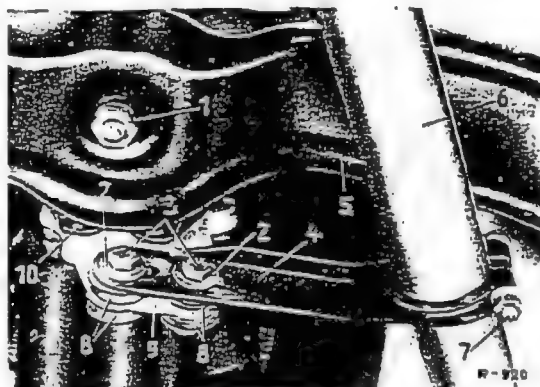

Fig. 49-1/1
7. Attach the rubber rings to the main muffler and on cars with dual-pipe exhaust system fit the insulating plates and screw on the hexagon nuts (Figs. 49-1/4 and 5).